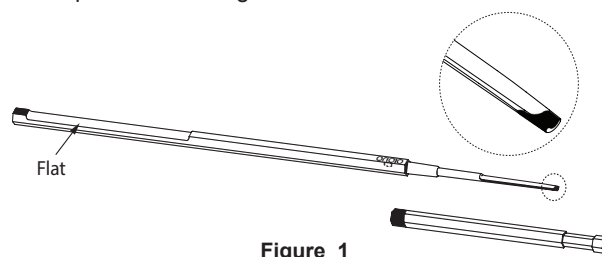

Figure 1
1. The flat surface provided on the VitriGuard™ is for recording patient information (Figure 1) and indicates orientation of concave surface for specimen loading.